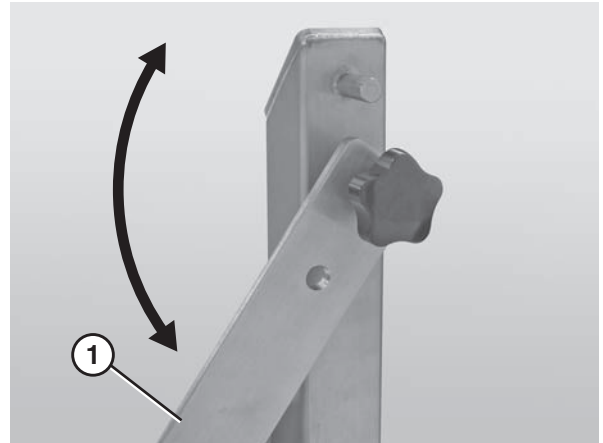

Figure 18
6. Lower the quick release arm (Figure 18, item 1) on one of the stands. *Note: if the conveyor is not equipped with Quick Release (QR Type) stands, it will be necessary to remove the entire stand.* For detailed instructions, refer to the “Sanitary Support Stands Installation, Maintenance and Parts Manual.”